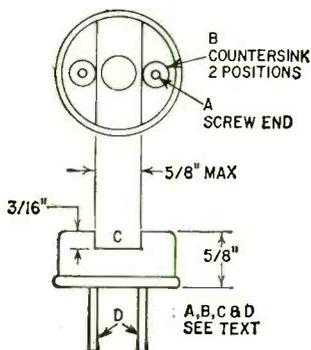

Figure 1
The antenna is a 38-inch whip which closes down to 9 inches. It is mounted on a  $2\frac{1}{4} \times \frac{3}{8}$ -inch polystyrene rod on which loading coil L5 is wound. In constructing the mount (Fig. 1), drill a  $\frac{3}{8}$ -inch-deep hole into one end of the rod, using a No. 25 bit. On the other end, use a No. 15 bit to drill a  $\frac{1}{2}$ -inch-deep hole. At the bottom of each hole drill another hole at a right angle to it clear through. Use a No. 60 bit. After the holes are drilled, wind 50 turns of No. 24 enameled copper wire on the rod, threading the ends of the wire through the small holes. Force-fit the jack that comes with the antenna into the No. 25 hole. Place a lug between it and the rod. Solder one end of the loading coil to this lug. Force-fit a miniature IPC phone tip plug into the other hole and place a lug between it and the rod. Solder the other end of the coil to this lug. When the mount is completed,
COMMERCIAL fittings for connecting small power transformers direct to power lines are not available. Here is a cheap and easy method, using an ordinary line attachment cap and a Muller No. 26 insulator that makes a first-class mounting for transformers with cores that are not more than  $\frac{3}{8}$  inch wide, the limit set by the maximum allowable width of the slot (C in Fig. 1).
Cut down a rubber line attachment cap to the form shown in Fig. 1, making the width of slot C a loose fit to the transformer core and the length of the slot at a right angle to the contact prongs (D). Expose the back ends of the screws holding the contact prongs to the body of the attachment cap (not the line connecting screws) by countersinking with a knife (a regular countersink just won't work here). These screws and countersinks are at A and B in Fig. 1. Solder the transformer's pri-